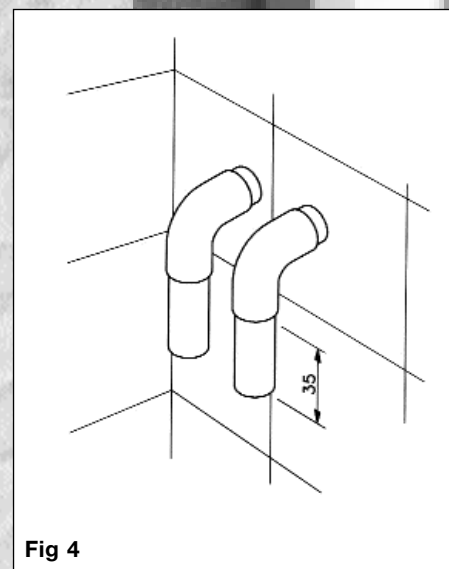

Fig 4
9. If supply pipework is rear entry (ie. not surface mounted) 90 degree elbows should be used along with a straight tail pointing downwards of at least 35mm in length (see fig 4).